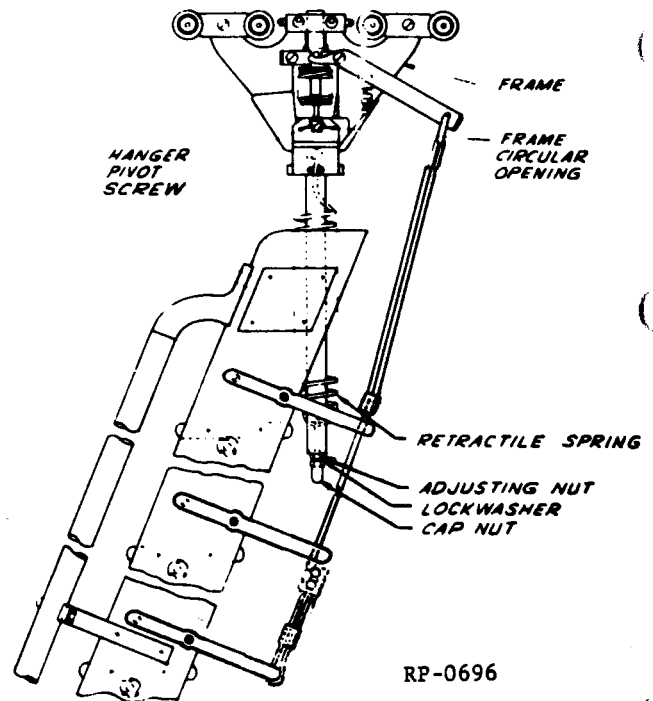

FIG. 6A 2A BRAKE ADJUSTMENT
6.21 The no-load requirement will usually be met if the retractile spring is adjusted so that the hanger pivot bolt lightly touches the top of the 1" circular opening in the frame (see Figure 6A) when there is no load on the ladder. This adjustment is made, with the Installer standing on another ladder, by turning the adjustment nut shown in Figure 2A.
6.6 The release rope clamps should be placed so as to provide enough slack in the rope to permit unrestricted motion of the release lever at all points along the track, when sufficient load is placed on the ladder to cause the hanger pivot bolt to touch the bottom of the 1" circular opening in the hanger frame. See Figure 6A. The Installer should check this requirement after ascending the ladder to a point at which the hanger pivot bolt touches the bottom of the 1" circular opening. This can be determined by watching the movement of the brake parts adjacent to the pivot bolt while walking up the ladder or by the feel of the ladder striking the bottom of the 1" circular hole. This check should be made at several points along the track.